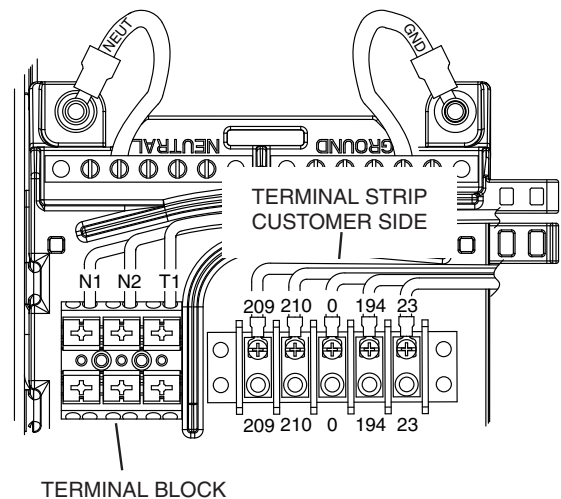

Figure 125. Nexus Transfer Relay Test Points
9. Locate the terminal strip in the generator control panel. Disconnect Wire 23 coming in from the transfer switch (customer side, see Figures 125 or 126).
14. Connect one meter test lead to Wire 23 connected at the terminal strip (see Figures 125 or 126) and connect the other meter test lead to a clean frame ground.